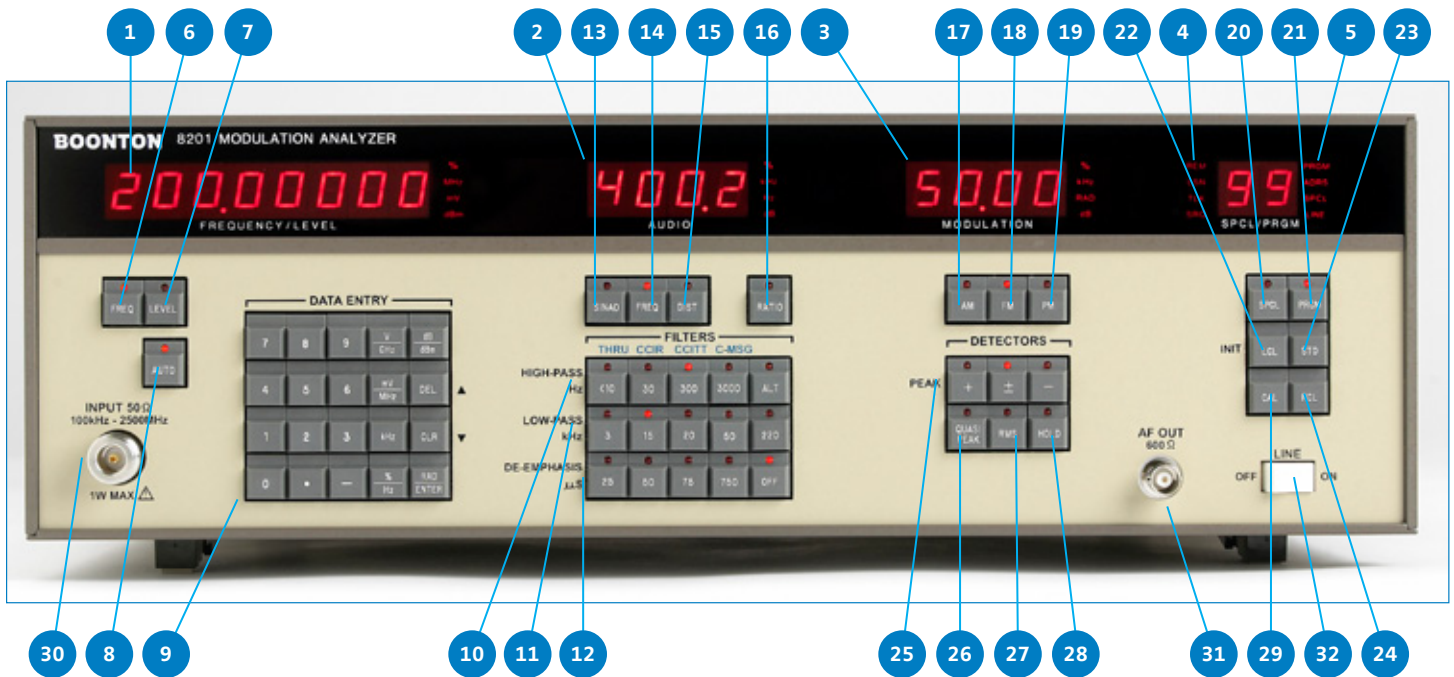
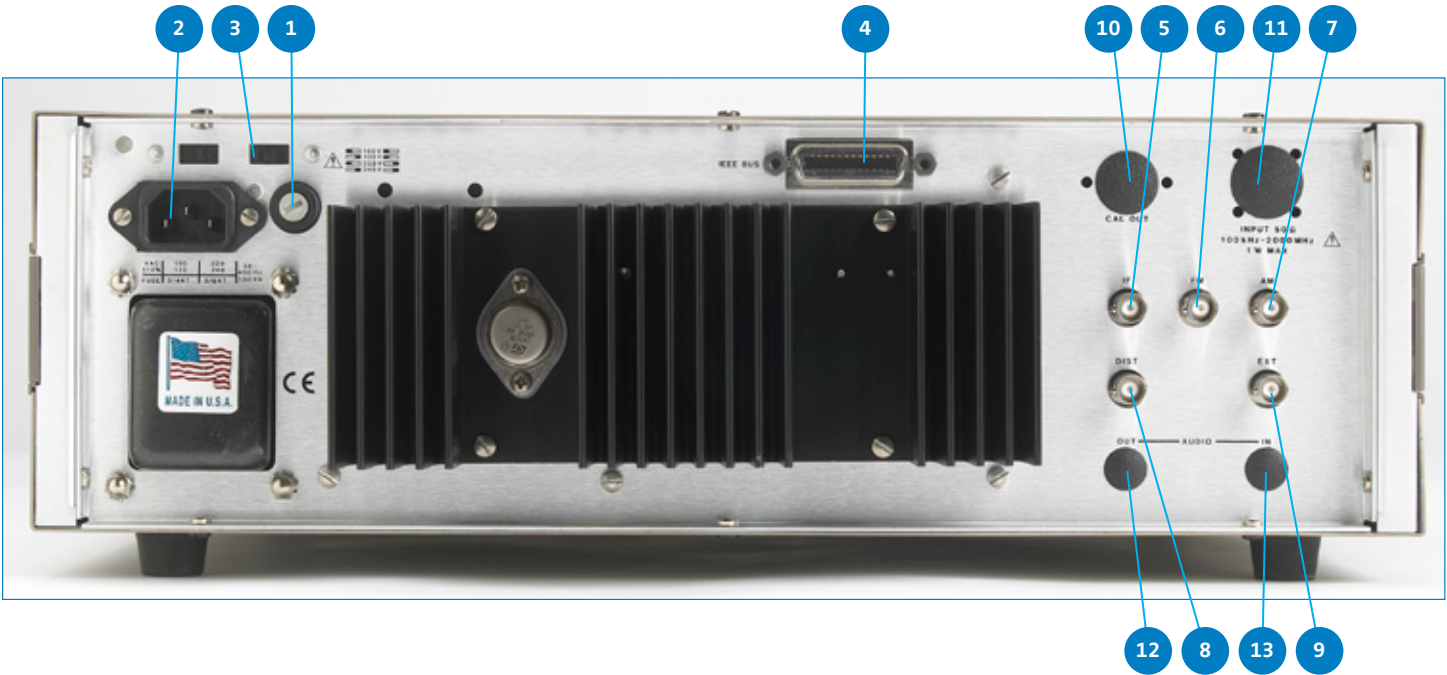

Figure-2: Front View of 8201 Modulation Analyzer
Figure-3: Rear View of 8201 Modulation Analyzer
The controls, indicators and connectors used during the operation of the instrument are listed in Table-1 , Table-2 and shown in Figure-2 and Figure-3.
**Table-2: Controls, Displays and Connectors of Back Panel of 8201 Modulation Analyzer (Figure-3)**